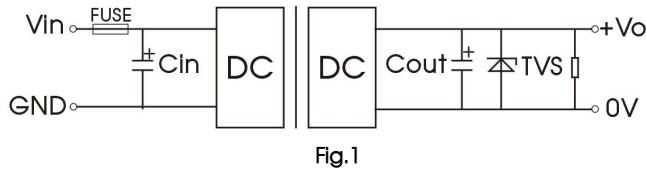

Fig.1
(1) We recommended using the recommended circuit shown in Fig.1 during product testing and application, otherwise please ensure that at least a $220\mu\text{F}$ electrolytic capacitors is connected at the input in order to ensure adequate voltage surge suppression and protection.
(2) We recommended increasing the value of C_{in} and pay attention to the unstable input voltage if the product input side is paralleled with motor drive circuit and/or larger energy transient circuits, to ensure the stability of input terminal and avoid repeatedly start-up problems due to input voltage lower than under-voltage protection point.
(3) We recommended increasing the output capacitance with limited to the capacitive load specification and/or increasing the voltage clamping circuit(such as TVS) if the output terminal is inductive device such as relay or a motor, to ensure adequate voltage surge suppression and protection.
(4) Input and/or output ripple can be further reduced by appropriately increasing the input & output capacitor values C_{in} and C_{out} and/or by selecting capacitors with a low ESR (equivalent series resistance). Also make sure that the capacitance is not exceeding the specified max. capacitive load value of the product.